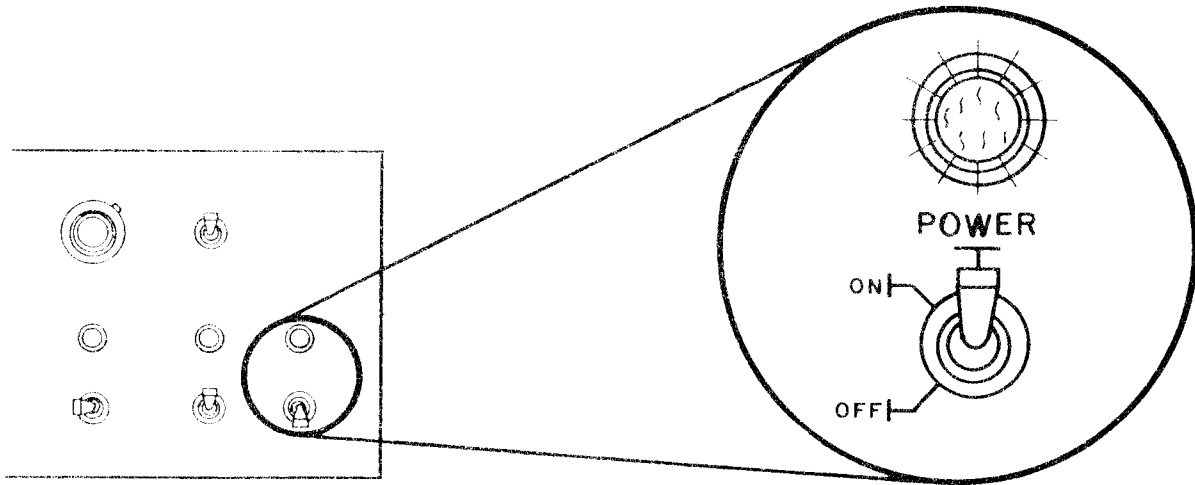

Figure 78. POWER Switch to ON
- f. On the front panel, flip the POWER switch to ON (see Figure 78).